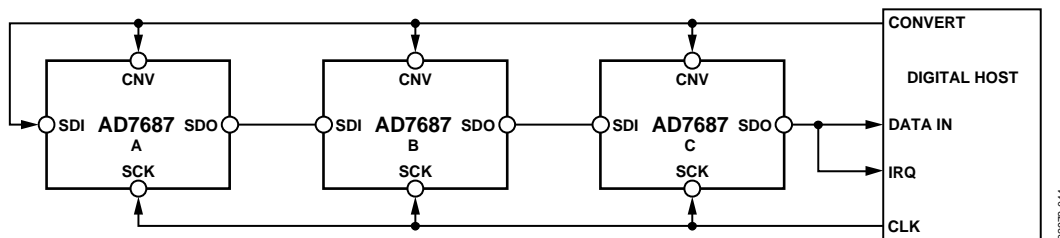
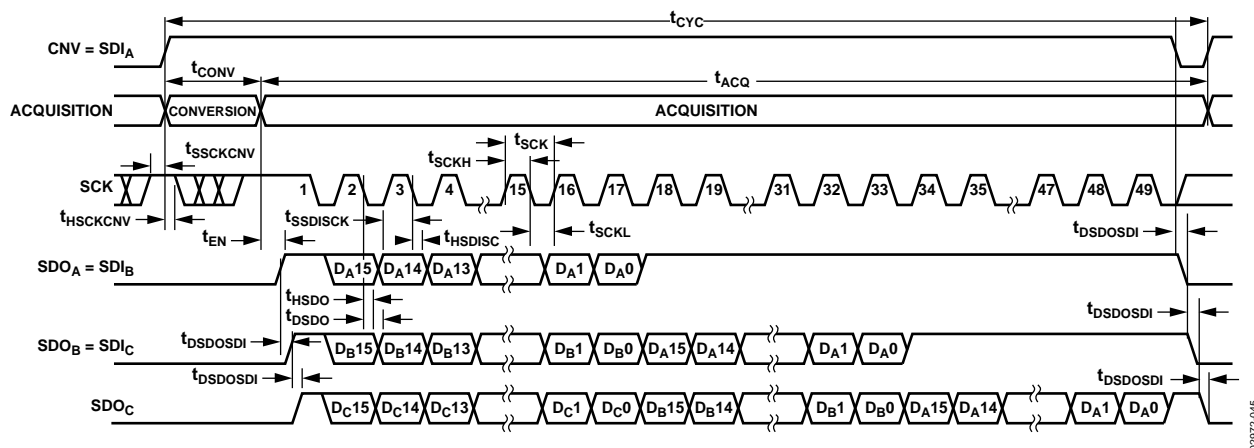

Figure 44. Chain Mode with BUSY Indicator Connection Diagram
Figure 45. Chain Mode with BUSY Indicator Serial Interface Timing
- In the chain mode if SCK is high during the CNV rising edge (see Figure 45).
Figure 44 shows a connection diagram example using three AD7687 devices, and Figure 45 gives the corresponding timing.
When SDI and CNV are low, SDO is driven low. With SDI low and SCK high, a rising edge on CNV initiates a conversion, selects the chain mode, and enables the BUSY indicator feature. In this mode, CNV is held high during the conversion phase and the subsequent data readback. When all ADCs in the chain have completed their conversions, the SDO pin of the ADC closest to the digital host (see the AD7687 C in Figure 44) is driven high. This transition on SDO can act as a BUSY indicator to